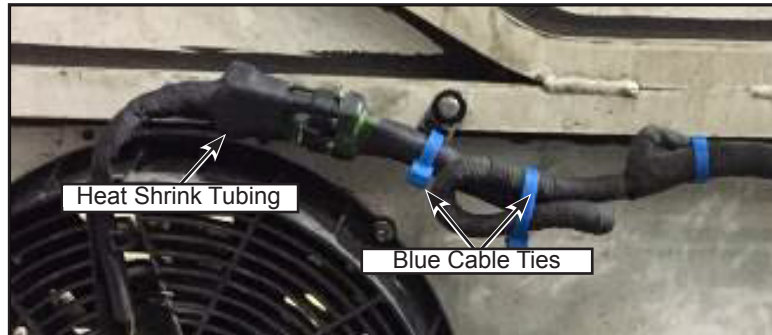

Figure 4 - Cut Cable Ties on Harness Side Wiring and Remove Heat Shrink Tubing on Delphi Connectors
- 1.10. Cut the two blue cable ties from the harness side wiring (see figure 4).
- 1.11. Remove the heat shrink tubing and the Coroplast tape from the connectors (see figure 4) and then disconnect the connectors. To help removing the heat shrink tubing, trace a shallow line on the heat shrink tubing with a sharp cutting blade (X-ACTO tool or equivalent) and then, using a heat gun, heat the tubing until it splits.